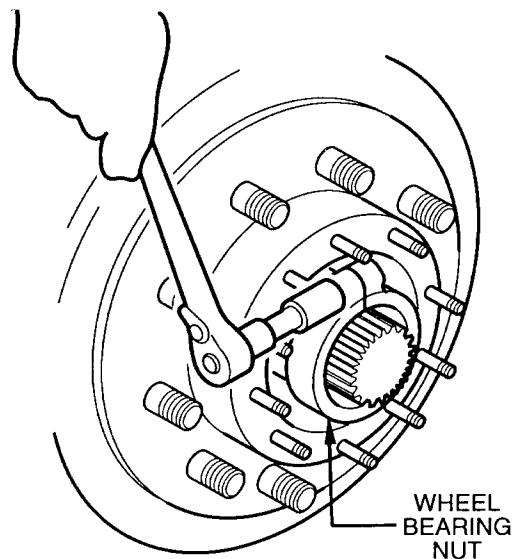

Figure 4 Removing Bearing Nut Lock
3. Remove bearing nut lock, lockwasher and bearing nut capscrews. (See Figure 4).